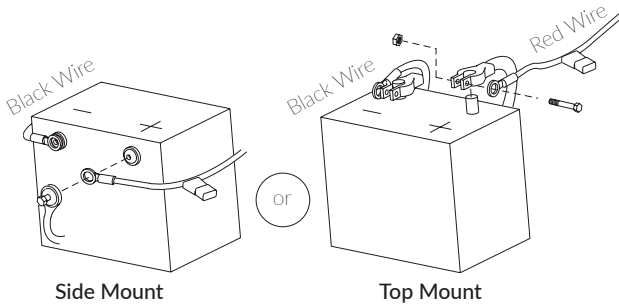

Figure 4-7
- Attach the black wire first to the negative terminal and red wire last to the positive terminal on the battery. **See Figure 4-7.**